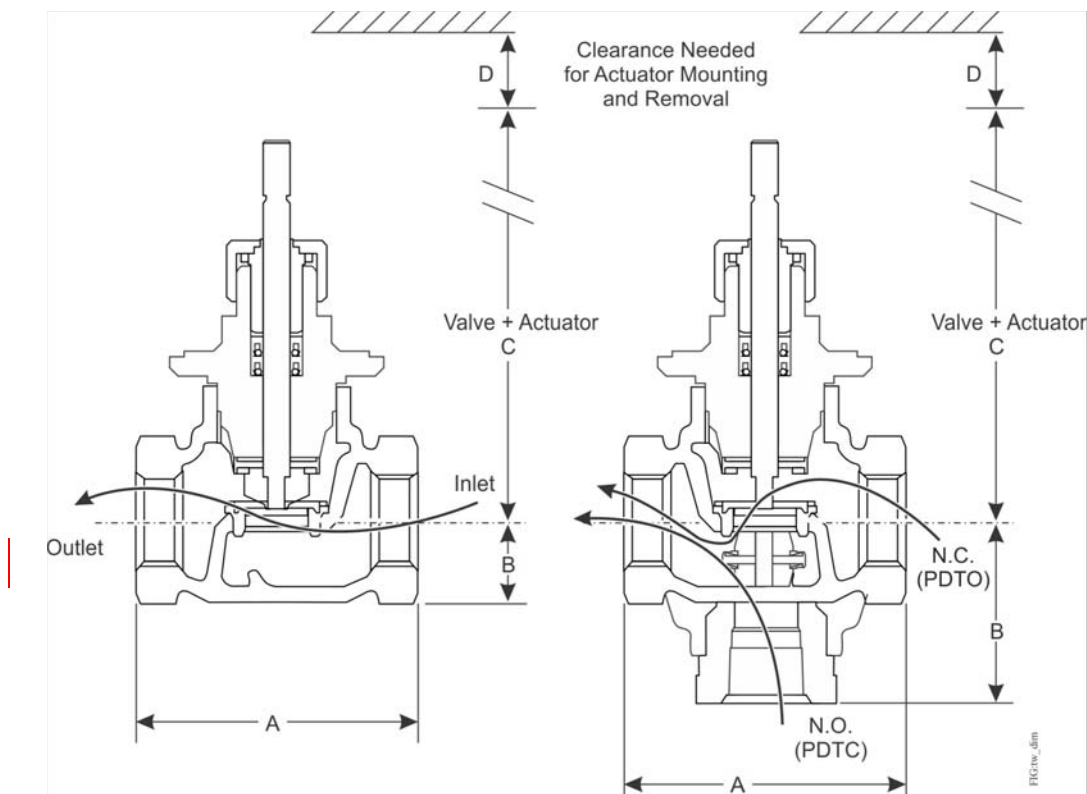

Figure 3: Two-Way and Three-Way Valve Dimensions
1. Dimension **C** is the overall height above the centerline of the valve body and dimension **D** is the clearance required for actuator removal (as illustrated in Figure 3).